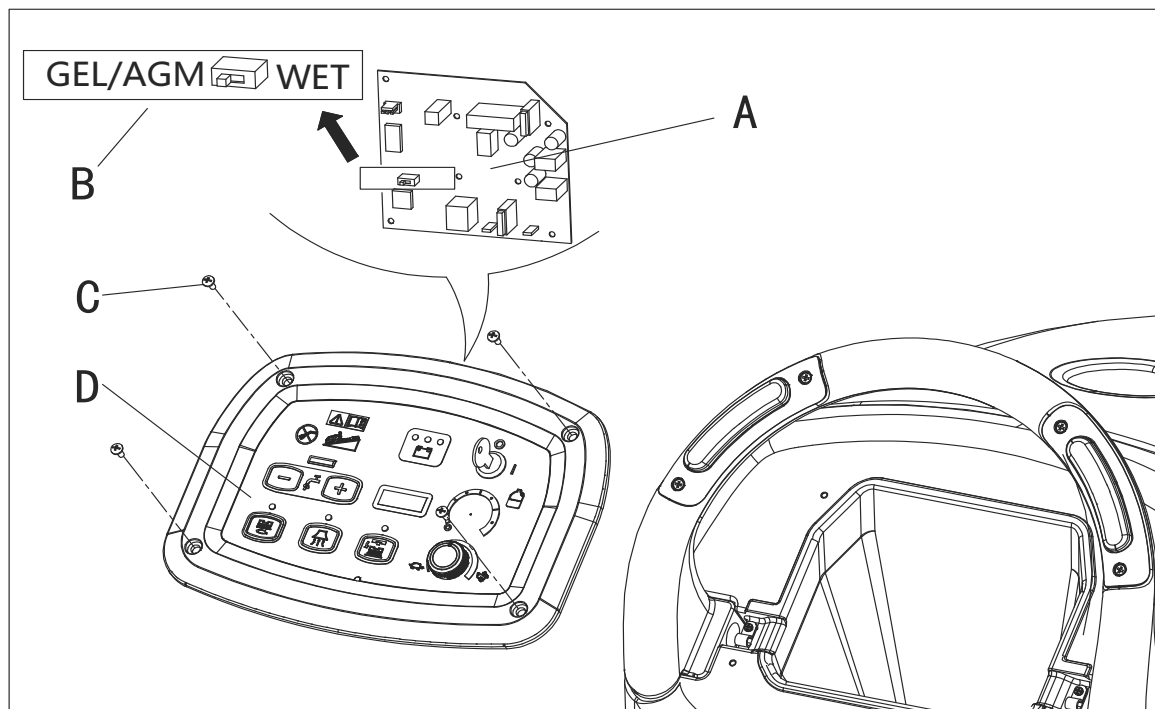

Figure 4
1. Turn the ignition key (54) to "I" and in the very first seconds of machine operation pay attention to the following:
- If the green warning light (53) is flashing, the machine is set to GEL/AGM.
- If the red warning light (51) is flashing, the machine is set to WET.
4. Remove the screws on control panel (C, Figure 4), then turn over the PCB (A, Figure 4) to find the DIP switch (B, Figure4) for setting battery type(WET or GEL/AGM).